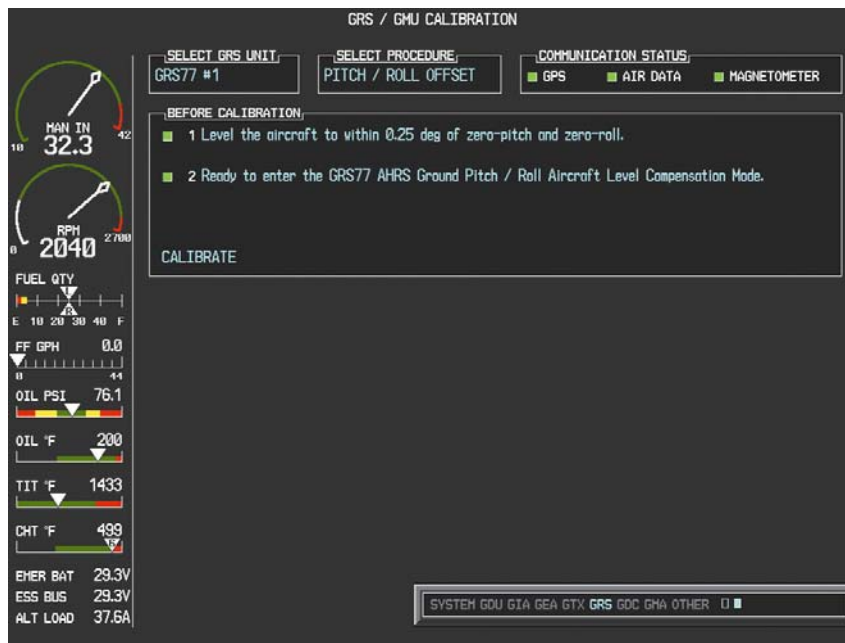

Figure 4-6. Pitch/Roll Offset
- a) Enter Configuration Mode and go to GRS/GMU CALIBRATION page as shown in Figure 4-6.